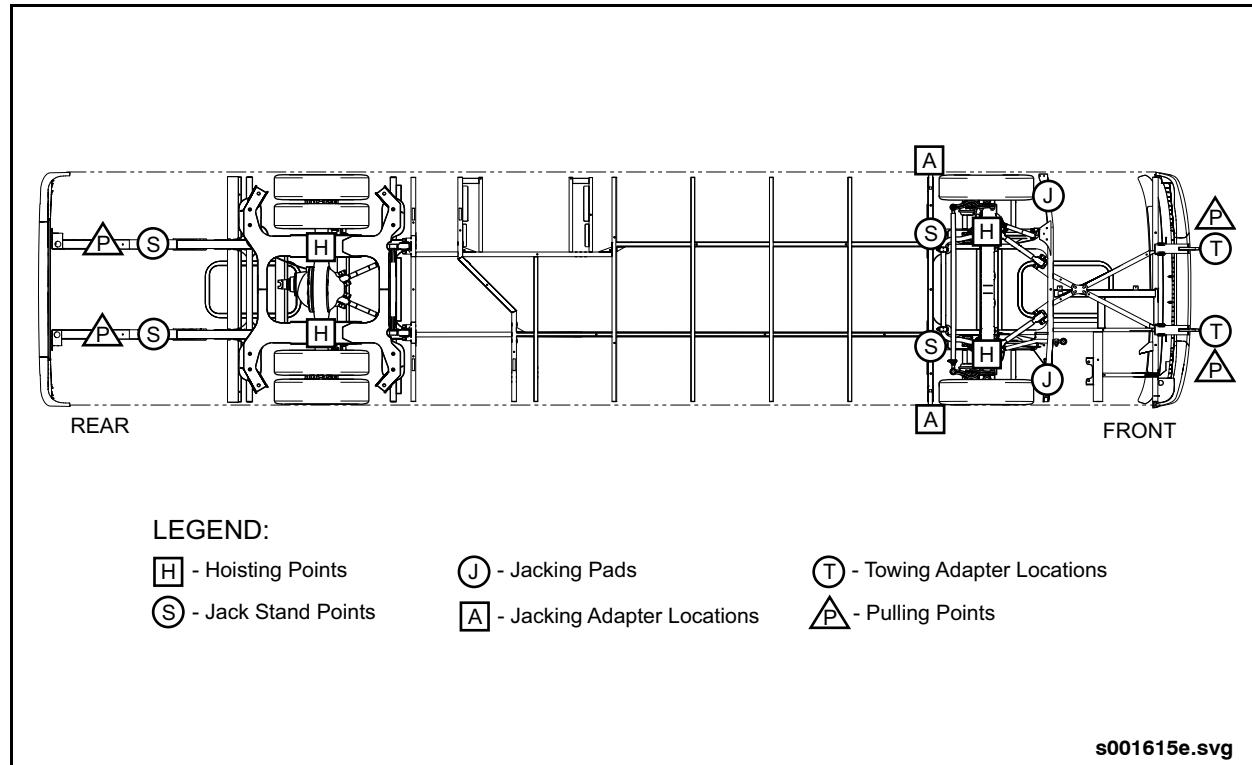

Fig. GI-20: Jacking (hoisting) Points & Stand Placement
- a. Locate the appropriate jack stand point under the frame rail at the rear of the vehicle. See "Fig. GI-20: Jacking (hoisting) Points & Stand Placement" on page 44.